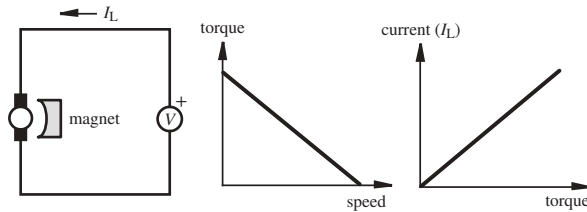

Figure 10.12 DC permanent magnet motor schematic and torque-speed curve.
Based on how the stator magnetic fields are created, DC motors are classified into four categories: permanent magnet, shunt wound, series wound, and compound wound. The electrical schematics, torque-speed curves, and current-torque curves for each configuration are illustrated in Figures 10.12 through 10.15. In the figures, V is the DC voltage supply, I_A is the current in the rotor (armature) windings, I_F is the current in the stator (field) windings, and I_L is the total load current delivered by the DC supply.
The stator fields in **permanent magnet (PM) motors** (see Figure 10.12) are provided by permanent magnets, which require no external power source and therefore produce no I^2R heating (although, the armature coils on the rotor do require power and suffer from I^2R heating). A PM motor is lighter and smaller than other, equivalent DC motors because the field strength of permanent magnets is high. PM motors are easily reversed by switching the direction of the applied voltage, because the current and field change direction only in the rotor. The PM motor is ideal in control applications because of the linearity of its torque-speed relation. The design of a controller is always easier when the actuator is linear since the system analysis is greatly simplified. When a motor is used in a position or speed control application with sensor feedback to a controller, it is referred to as a **servomotor**. PM motors are used only in low-power applications since their rated power is usually limited to 5 hp (3728 W) or less, with fractional horsepower ratings being more common. PM DC motors can be brushed, brushless, or stepper motors.